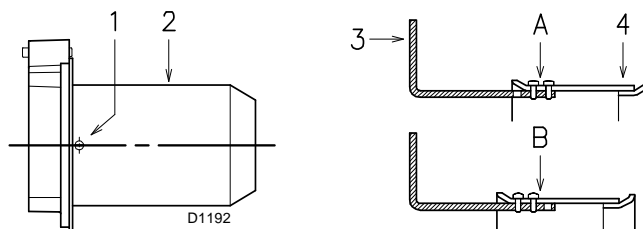

Fig. 11
- Unscrew the screws 1) (Fig. 11) and disassemble the blast tube 2).
Once this operation has been carried out, secure the flange 9) (Fig. 11) to the boiler plate, inserting the gasket 7) (Fig. 11) supplied with the burner. Use the 4 screws, also supplied with the unit, after first protecting the thread with an anti-seize product. Tighten the seal between burner and boiler.